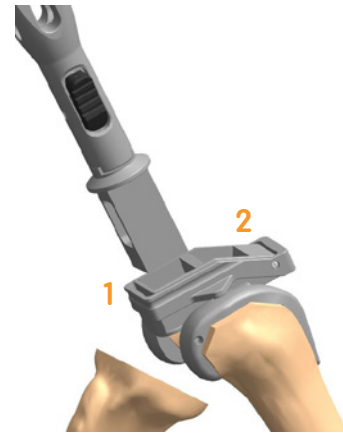

Figure 44
7. Connect the Modular Box Chisel to the Modular Impact Handle. Insert the Chisel into the posterior portion of the BCS Box Prep Guide and impact until flush. Repeat punching on anterior portion (Figure 44). Use underside of strike plate to remove.